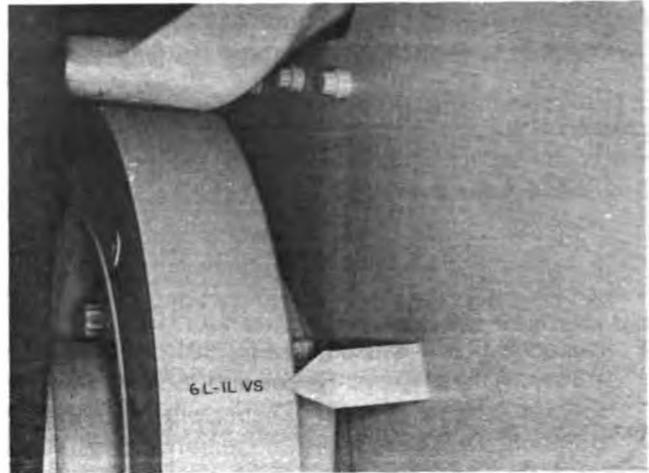

Fig. 2-59, (K21917). Valve set marks on vibration damper — KT(A)-2300
1. When viewing the engine at the vibration damper, Fig. 2-59, align the timing marks on the damper with the pointer on the gear case cover.